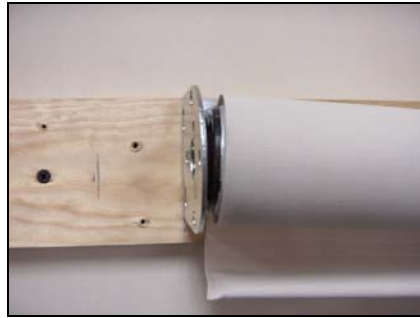

Figure 10 Idler Pin Collapsed in Bracket
- Gently push the shade toward the idler bracket until the idler pin on the shade collapses. See Figure 10.